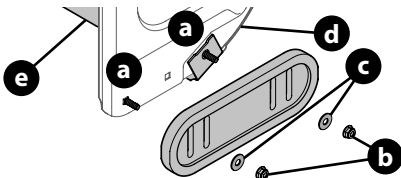

Figure 39
- Using the two carriage bolts (a) and hex flange nuts (b) and flat washers (if equipped) (c), secure the skid shoes to the auger housing (d). Hand tighten hex flange nuts (Figure 39).